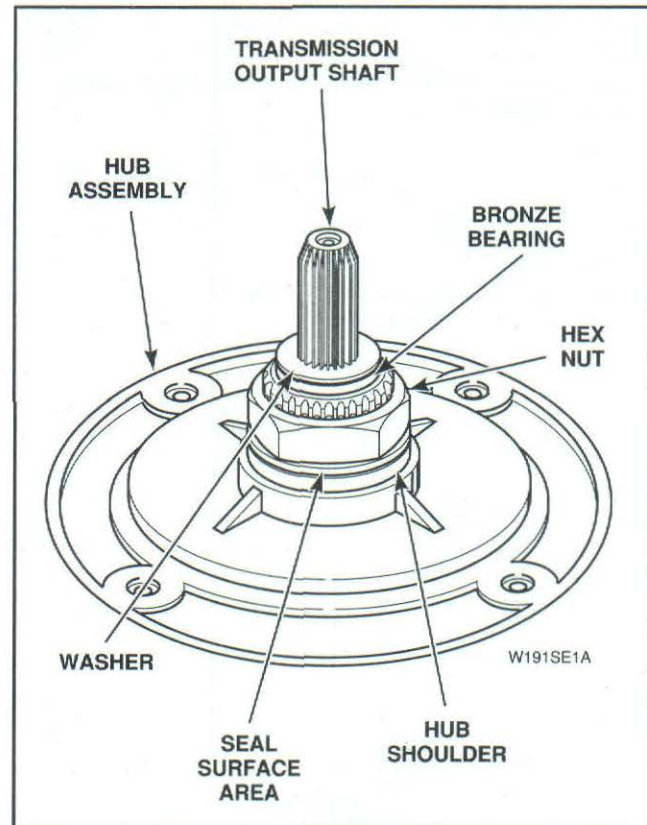

Figure 17
- m. Thoroughly clean any foreign material from seal surface area of hub and bronze bearing, Figure 17.